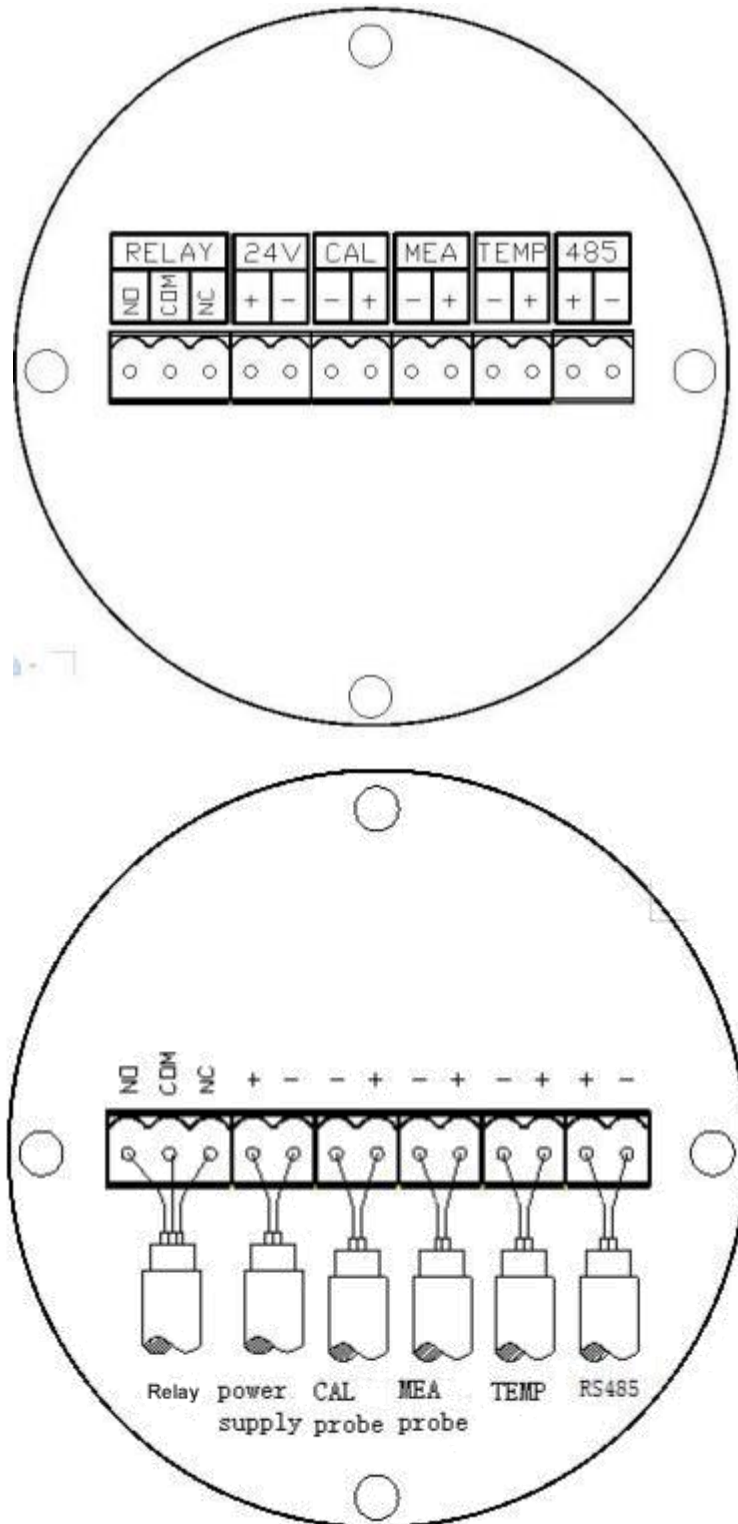

Figure 3 Terminal of level gauge
- The terminal of the level gauge in Figure 3.